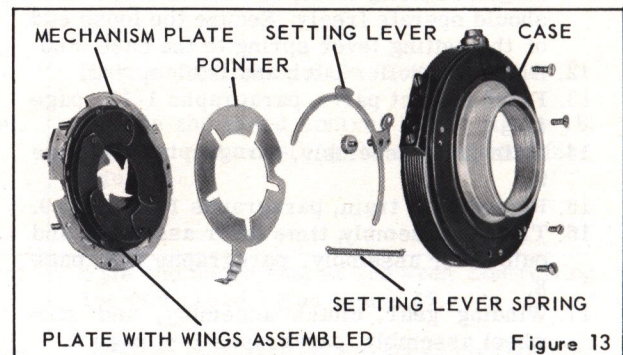
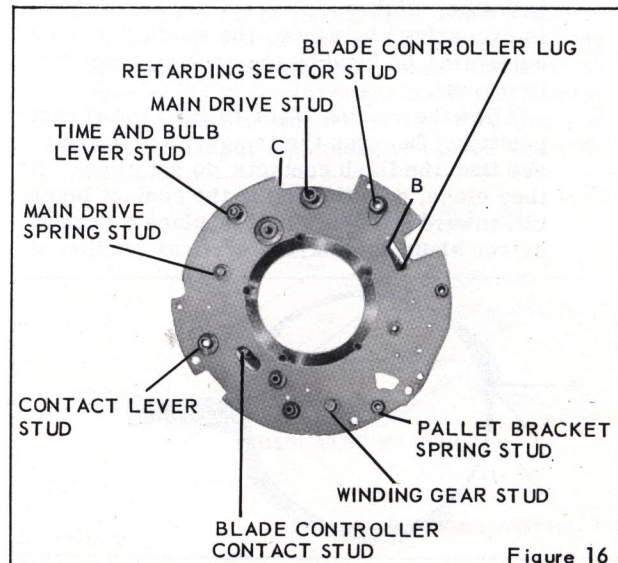

Figure 13
Figure 16
13. Observe whether the BLADE CONTROLLER CONTACT STUD, figure 16, makes slight contact with the contact spring just before the blades are fully open. If the spring does not touch the stud, bend the end of the spring toward the stud.
2. Contact lever complete on the CONTACT LEVER STUD, figure 16. The ends of the contact lever spring should face in, toward the shutter blades. Turn the long end of the spring in a clockwise direction to place it in tension, and rest it in the groove in the case. Form the short end of the spring around the vertical part of the contact lever tail.
12. Trip the shutter and at the same time retard its opening action by placing one finger against the shutter SETTING LEVER, figure 13. Observe whether the BLADE CONTROLLER CONTACT STUD, figure 16, makes slight contact with the contact spring just before the blades are fully open. If the stud does not touch the spring, bend the end of the spring toward the stud.
11. MECHANISM PLATE, figure 13.
9. The shutter **CASE**, figure 13, diaphragm **POINTER** and setting lever should be thoroughly cleaned. Apply a thin film of grease (Texaco Unitemp-RCX169 Grease) to the recess in the case occupied by the setting lever. Then wipe this area lightly with a clean cloth.